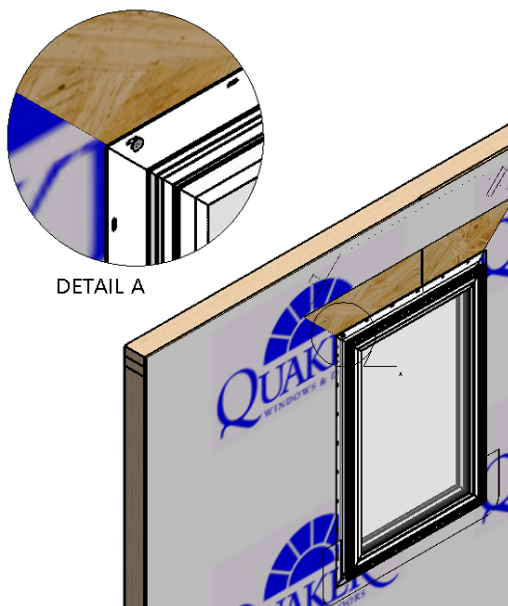

Fig. 7
- C. Temporarily tack the window into place using 2" galvanized roofing nails through the pre-punched hole on one top corner of nailing flange. Do not drive the nail in fully. (Fig. 7)